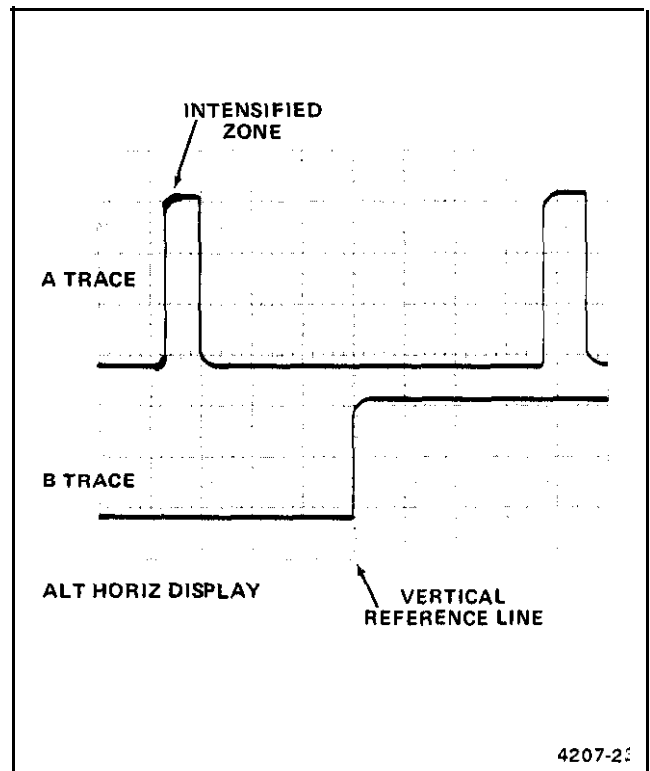

Figure 4-13. Time difference between repetitive pulses.
7. Adjust the B DELAY TIME POSITION control to move the intensified zone to the leading edge of the first pulse (on the A trace); then fine adjust until the rising portion (on the 8 trace) is centered at any convenient vertical graticule line (see Figure 4-13).